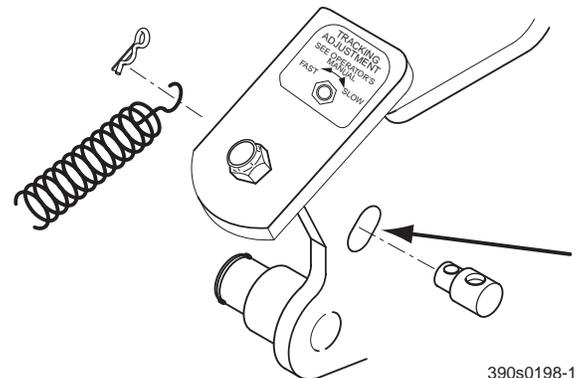

Figure 13. Control Rod Adjustment
3. Reinstall the speed control spring onto the swivel. Install the hair pin onto the swivel. (See Figure 13).